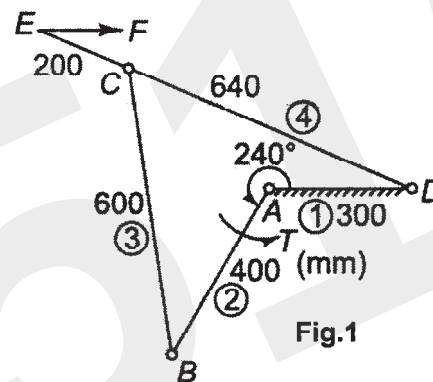

Fig.1
16. A four bar linkage with the following dimensions is acted upon by a force of 50 N on the link DC as shown in Fig. 1. AD = 300 mm, AB = 400 mm, BC = 600 mm, DC = 640 mm, DE = 840 mm. Determine the input torque T on the link AB for the static equilibrium of the mechanism for the given configuration.